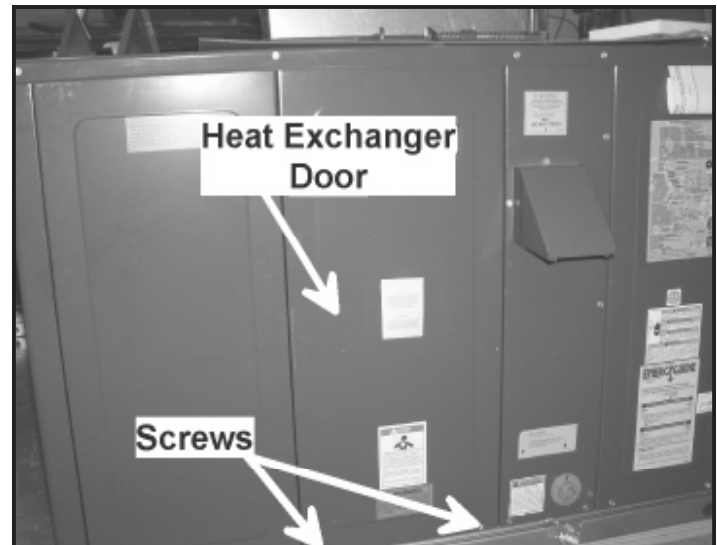

Figure 1
3. Locate heat exchanger door. See figure 1.